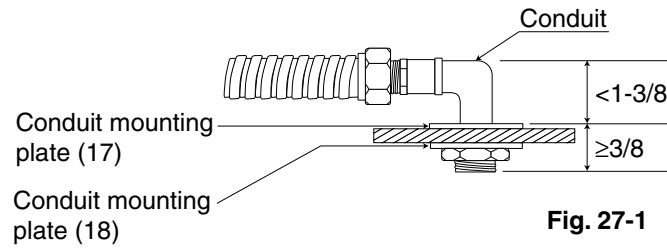

Fig. 27-1
9. Use a pair of conduit mounting plate (17) and (18) to connect a conduit to the unit as shown Fig. 27-1.
10. Use a 90° elbow type of conduit with dimensions Fig. 27-1 to prevent it from hitting the swing motor housing of decoration panel.